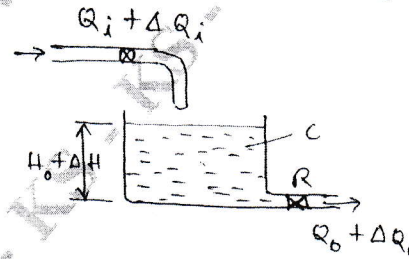

Fig.Q.3(b)
- b. Obtain transfer function of liquid level control system shown in Fig.Q.3(b). (08 Marks)